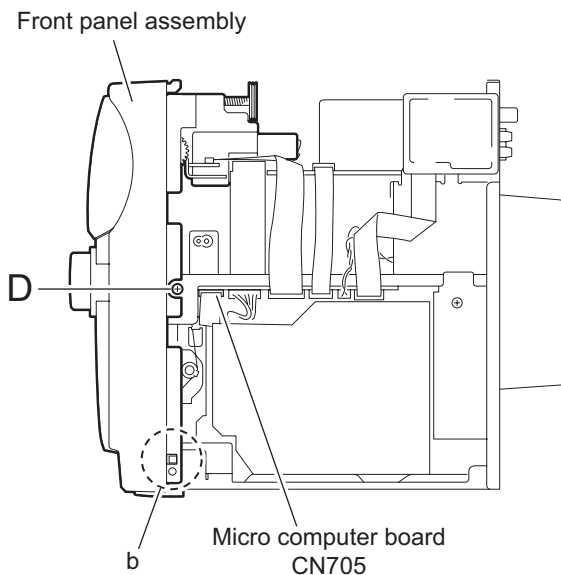

Fig.6
2.1.3 Removing the front panel assembly (See Fig.6~9)